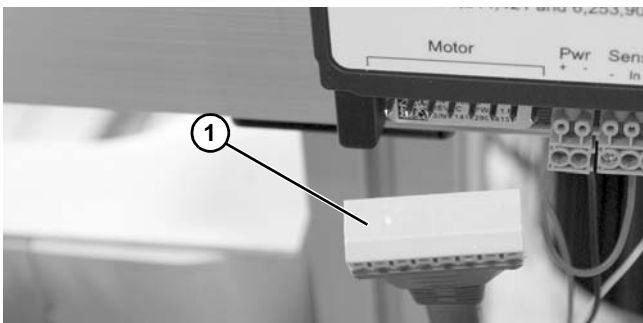

Figure 72
4. Install motor connector (**Figure 72, item 1**) to drive control.